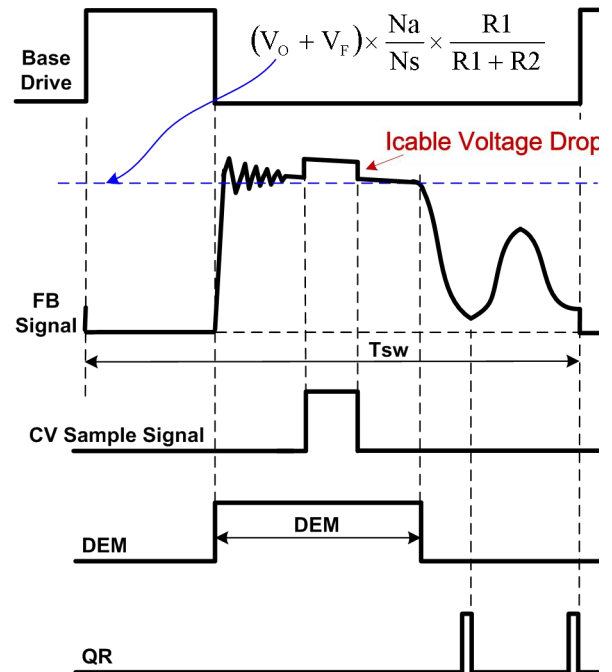

Fig.2
In Primary Side Regulation (PSR) control, the output voltage is sensed on the auxiliary winding during the transfer of transformer energy to the secondary. Fig.2 illustrates the timing waveform of CV sampling signal, demagnetization signal (DEM) and quasi-resonant (QR) trigger signal in 6215. When the CV sampling process is over, the internal sample/hold (S&H) circuit captures the error signal and amplifies it through the internal Error Amplifier (EA). The output of EA is sent to the Quasi Resonant PSR CV Modulator (QR-CVM) for CV regulation. A valley is selected to trigger new PWM cycle by the output of the QR-CVM block, which is determined by the load. The internal reference voltage for EA is trimmed to 2V with high accuracy.
During the CV sampling process, an internal variable current source is flowing to FB pin for Cable Drop Compensation (CDC). Thus, there is a step at FB pin in the transformer demagnetization process, as shown in Fig.2. Fig.2 also illustrates the equation for